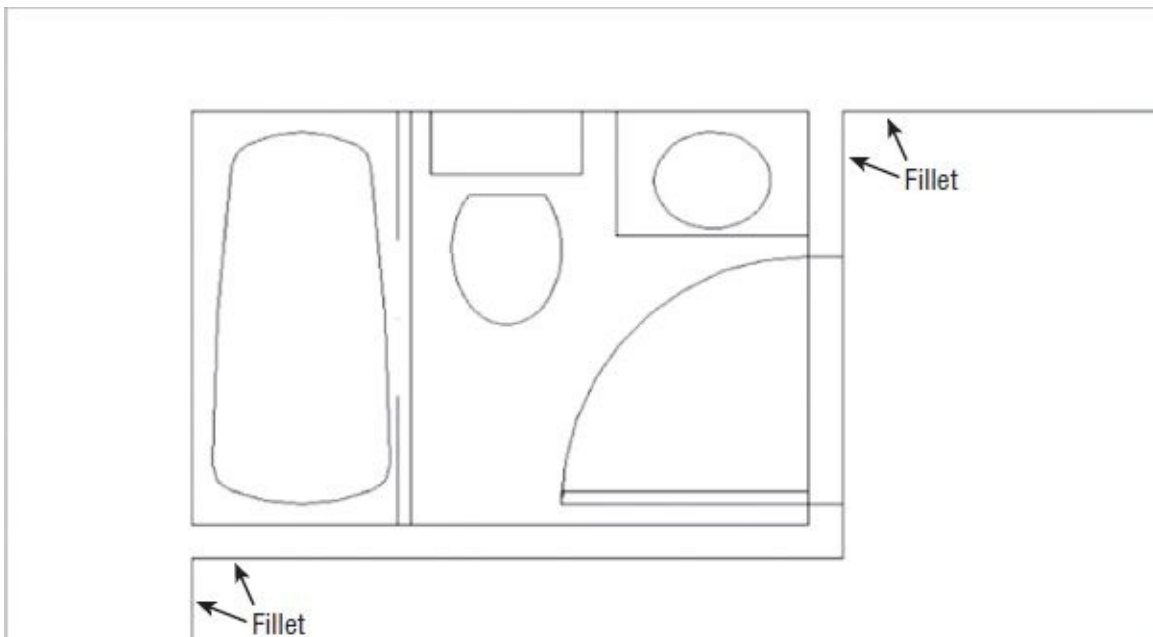

FIGURE 6.22 The cleaned-up wall intersections
4. Fillet the bottom wall of the bathroom with the left wall of the unit, as shown in Figure 6.22. Make sure that the points you pick on the wall lines are on the side of the line that you want to keep, not on the side that you want trimmed.
5. Fillet the top wall of the unit with the right-side wall of the bathroom, as shown in Figure 6.22.